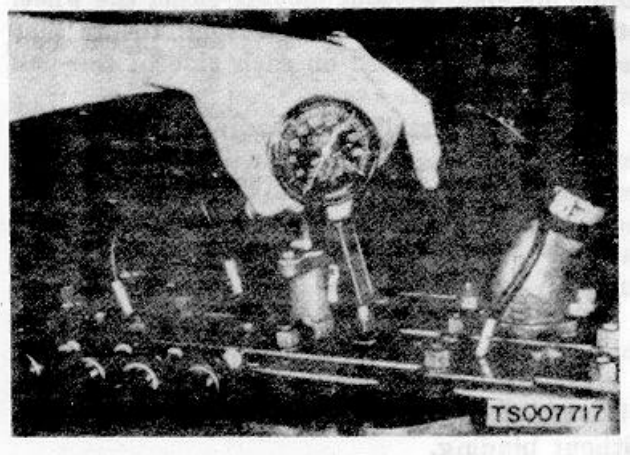

Figure 4-44. Checking Engine Compression
(1) Test the battery (para 4-37). If the battery is not fully charged, replace it with a fully charged battery.
(2) Start the engine and allow it to run until it reaches operating temperature (160--180°F), then shut off the engine.
(3) Clean around the spark plug ports with compressed air and a cloth dampened in an approved cleaning solvent. Remove the spark plugs.
(4) Hold a compression gage in a spark plug port as shown in figure 4-44. Crank the engine with the starting motor until the highest gage reading is reached. Record the reading. Repeat this process at each of the remaining spark plug ports. The firing order is 1-3-4-2. Reinstall spark plug.
(5) Compression readings above 110 PSI, and within 10 PSI of each other are normal. If readings are below 110 PSI or are irregular, the valves or valve seats are burned, the piston rings are worn, or there are other internal engine problems.
(6) If compression fails to fall within the required range, report to direct or general support maintenance personnel.